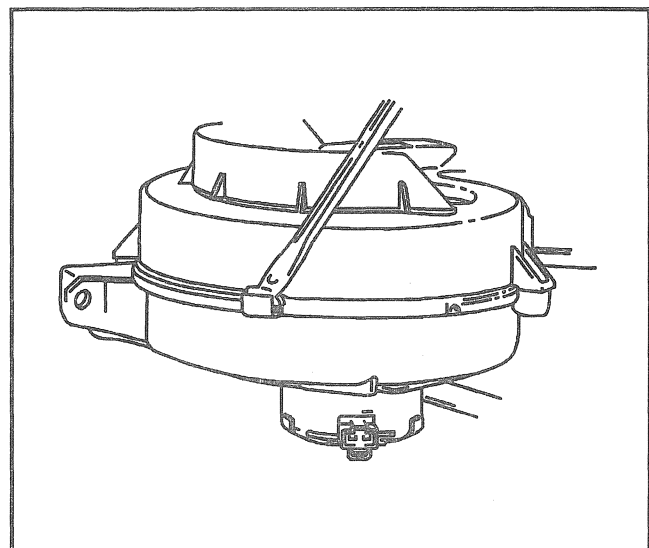

Figure 54—Removing Case Clip
6. Rear heater hoses from auxiliary heater core (32), if equipped. Refer to SECTION 1A.
7. Auxiliary refrigerant hoses (20 and 21) from auxiliary evaporator (26). Refer to "Compressor and Condenser Hose Assembly" in this section.
- A. Remove case clip (Figure 54).
11. Evaporator core (26).
1. Evaporator core (26). Refer to "Refrigerant Oil Distribution" in this section, if replacing evaporator.
- Case clip (Figure 54).
5. Auxiliary refrigerant hoses (20 and 21) to auxiliary evaporator (26).
6. Rear heater hoses to auxiliary heater core (32), if equipped.
4. Screws (29).
6. Blower motor (28).
7. Fan cage from the motor (Figure 54)